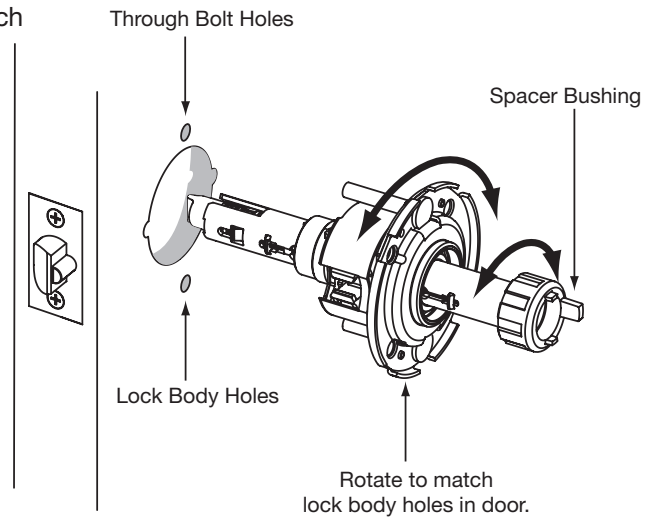

Fig. 5A
- Lock body holes – 12 & 6 o'clock (Fig. 5A).